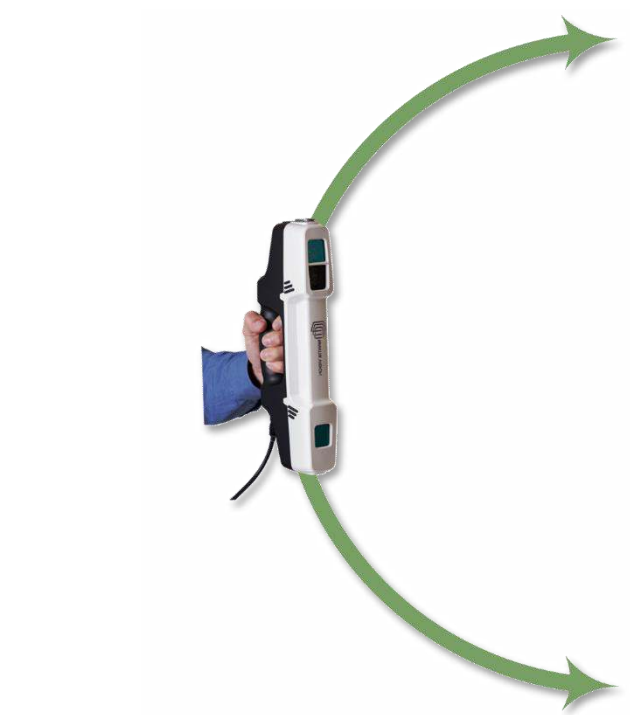

Figure 229 – Calibration window – Vertical Scanning Motion
- III. Perform a vertical semi-circular motion scan as presented in Figure 229 below.